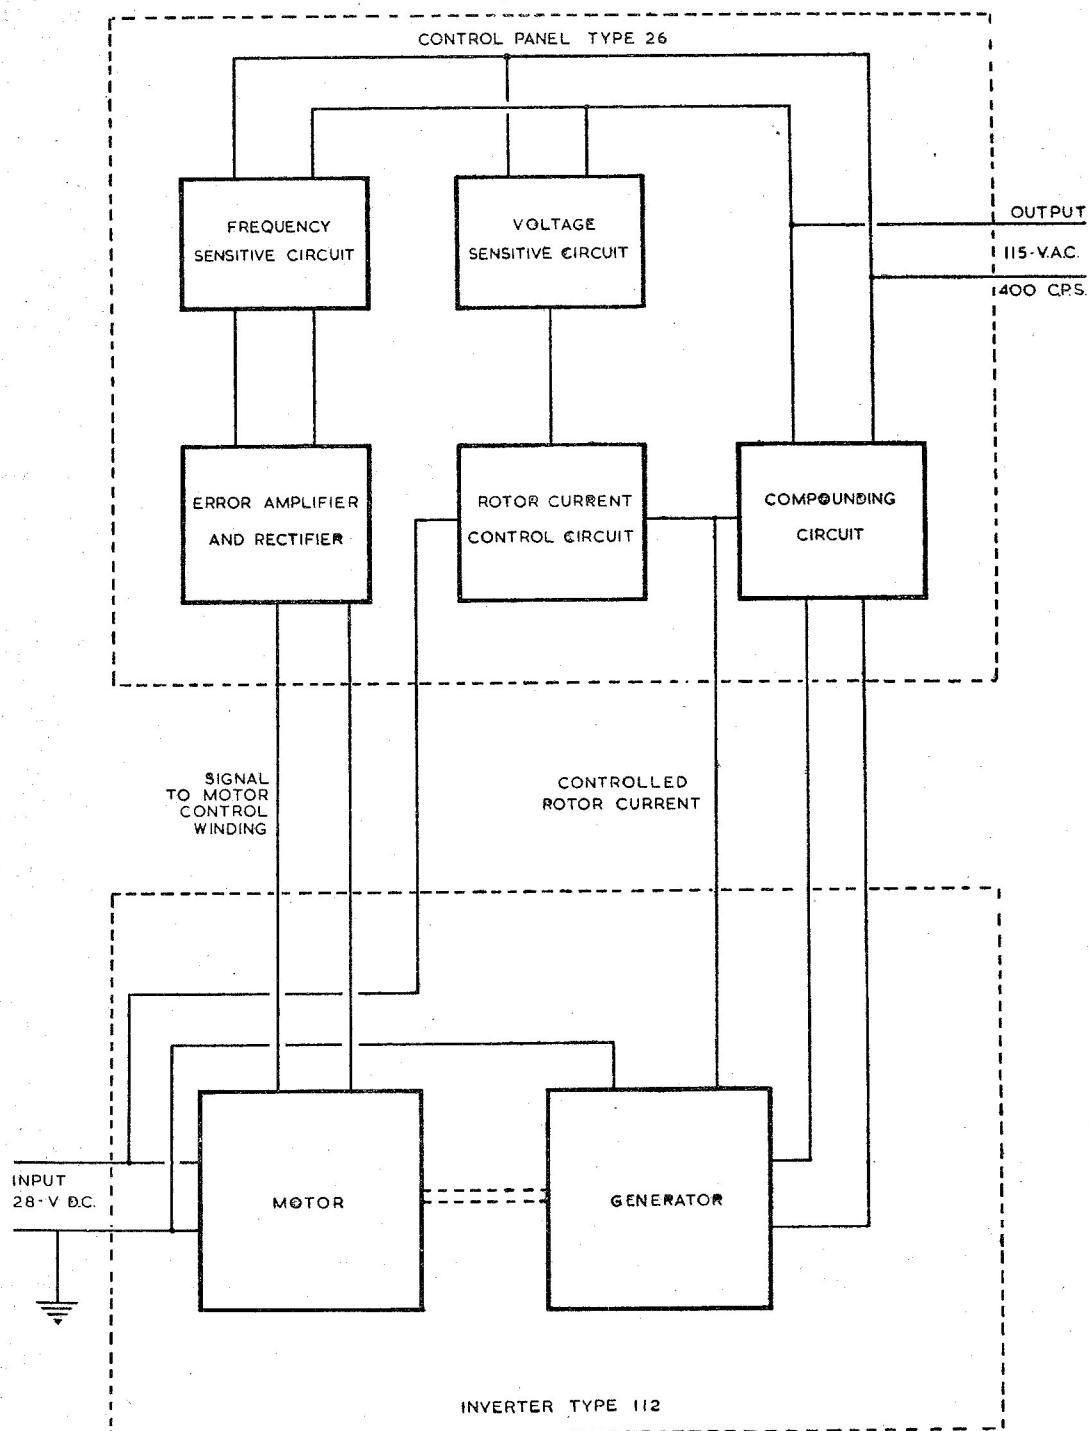

Fig. 1. Typical schematic diagram
12. The inverter operates in conjunction with a control panel of the U1500 series; a typical schematic diagram, showing a Type 112 inverter (Rotax S3302) used with a Type 26 control panel (Rotax U1504), is shown in fig. 1. The control panel senses errors in the voltage and frequency of the inverter output; the frequency correction signal from the panel is applied to the control winding of the motor, thereby regulating the speed of the inverter. On starting, the alternator rotor winding is excited by d.c. tapped from the main d.c. input, and led through a contactor in the control panel. When the inverter has started and the control voltage is approached, the contactor opens and the rotor is from then on excited by the rectified outputs of the compounding circuit and the voltage control circuit which maintains a controlled voltage.